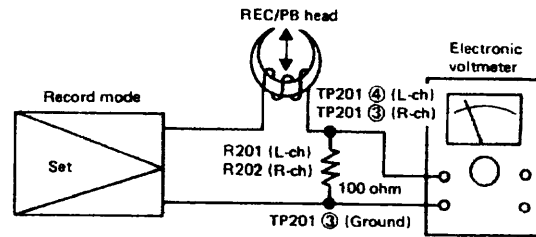

Figure 22-1
- Make connection of instruments as shown in Fig. 22-1, and adjust variable resistor VR205 or VR206 so that bias current available with the tape selector switch set at each position is shown in Table 22-1.